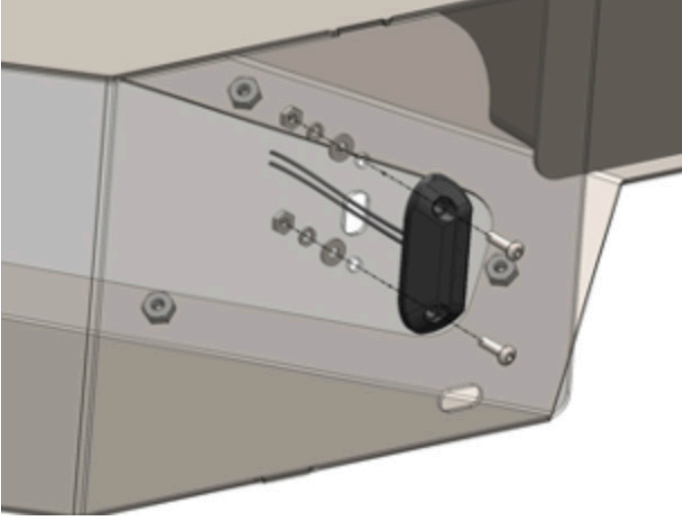

Figure 15
16. Install the provided license plate light (61791) using the two (2) #10 button head bolts with flat/lock washers and nuts. Figure 15.